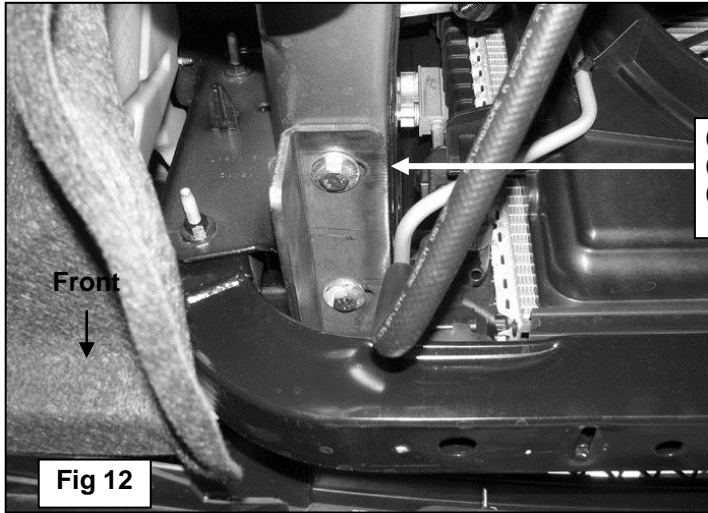

Fig 12
2. Locate the (2) threaded holes in the bottom of the frame channel, **(Figure 10)**. Select the driver side Frame Mounting Bracket. Hold the Bracket with the mounting tab flat, **(Figure 11A)** insert it through the opening and rotate up into position in line with the factory threaded holes, **(Figure 11B)**. Bolt the Bracket to the frame channel with (2) 10mm x 30mm Hex Bolts, (2) 10mm Large Flat Washers and (2) 10mm Lock Washers, **(Figure 12)**. Snug but do not fully tighten the hardware at this time. Repeat this step for passenger side Frame Bracket installation.